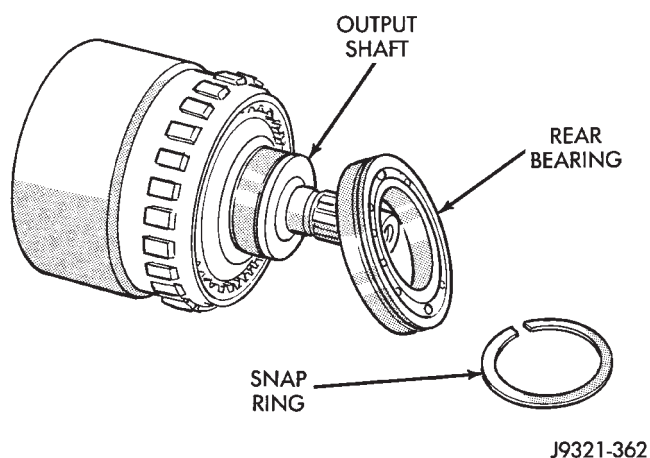

Fig. 196 Rear Bearing Removal
(7) Remove snap ring that retains rear bearing on output shaft.
(8) Remove rear bearing from output shaft (Fig. 196).